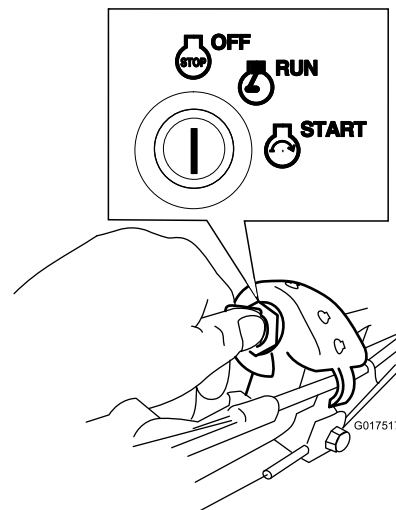

Figure 20
1. Turn the key to the Off position (Figure 20).